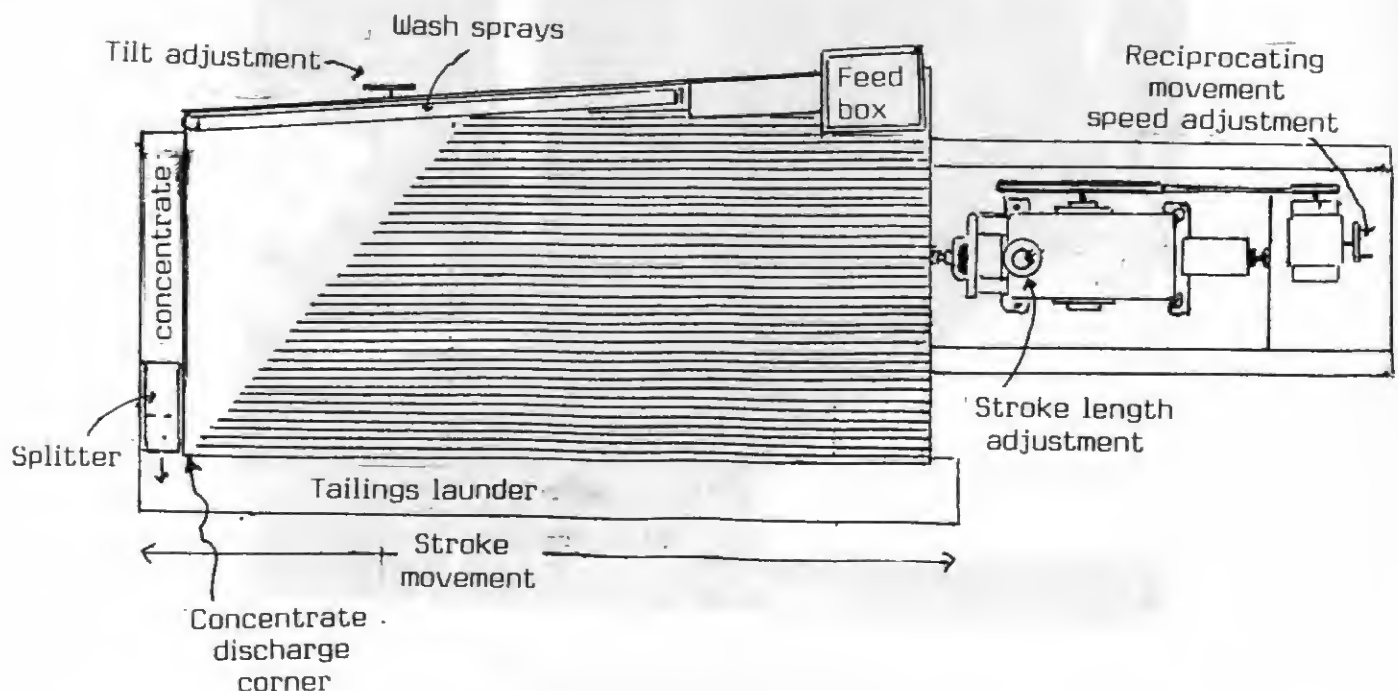

Fig. 8 The Wilfley Table
a. General Description (See fig. 8)
- (iii) Water Wash: The feed edge of the table (See fig. 8) has a water spray bar. This water is adjusted so as to provide a gentle wash across the table.